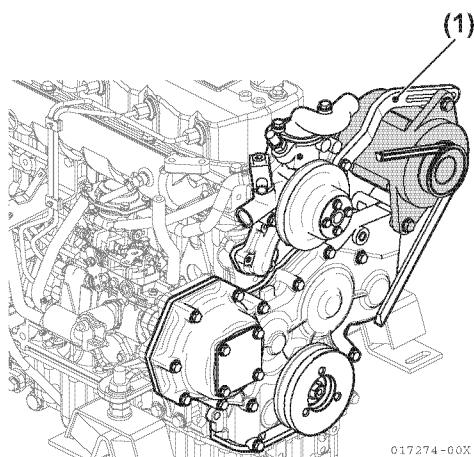

Figure 11-7
4. Loosen the alternator adjuster bolt (Figure 11-7, (1)) and relieve V-belt tension. Remove the V-belt. *NOTICE: If belt is to be reused, note direction of travel and install in same direction of travel.*